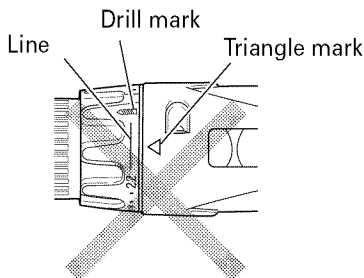

Fig. 7
- Do not use with the clutch dial numeral between "22" and the line at the middle of the drill mark. Doing so may cause damage. (See Fig. 7)